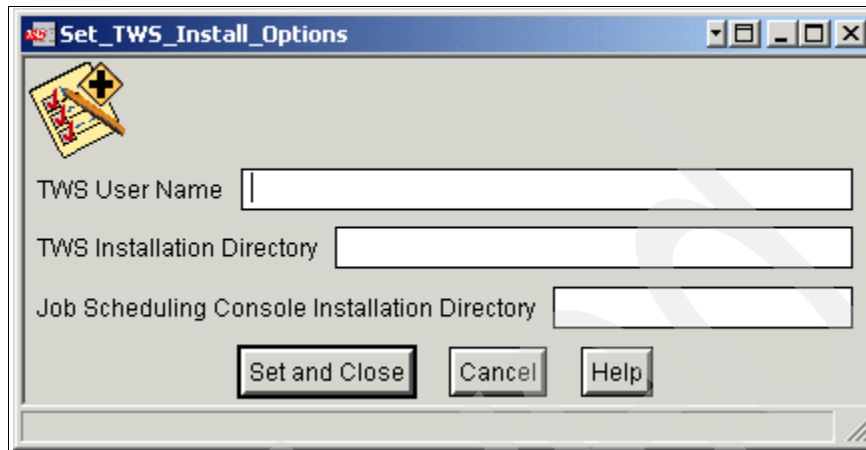

Figure 8-11 Set_TWS_Install_Options window
7. Select **Execute & Dismiss**. The Set_TWS_Install_Options window displays as shown in Figure 8-11.